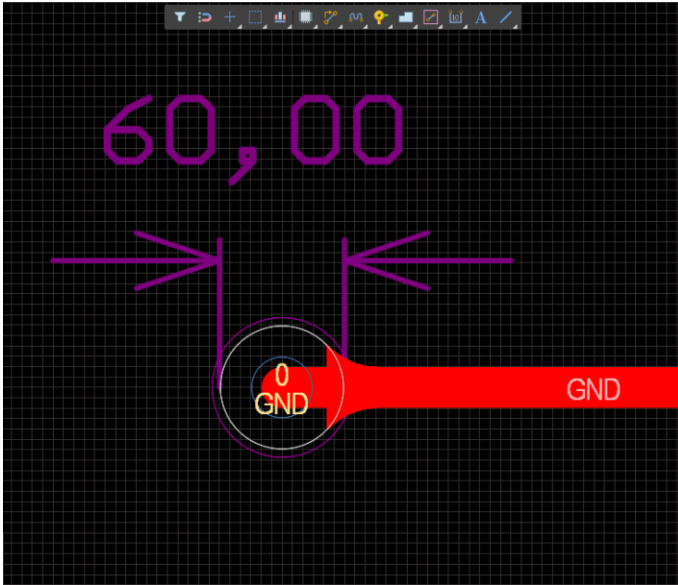

Figure 5. Draft Mode View
- Setting objects into draft mode will change the appearance of an object from a solid to an outline view. See Figure 5 below.